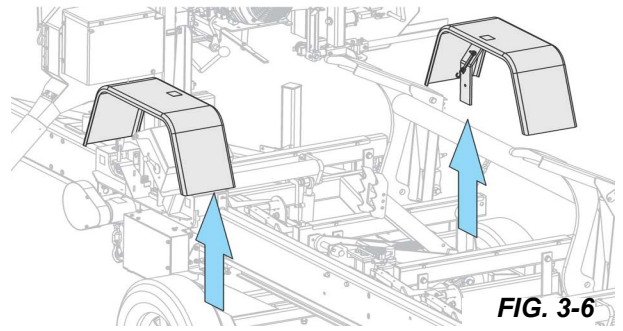

FIG. 3-6
- Remove the fenders by lifting them out of the slots. See FIG. 3-6.